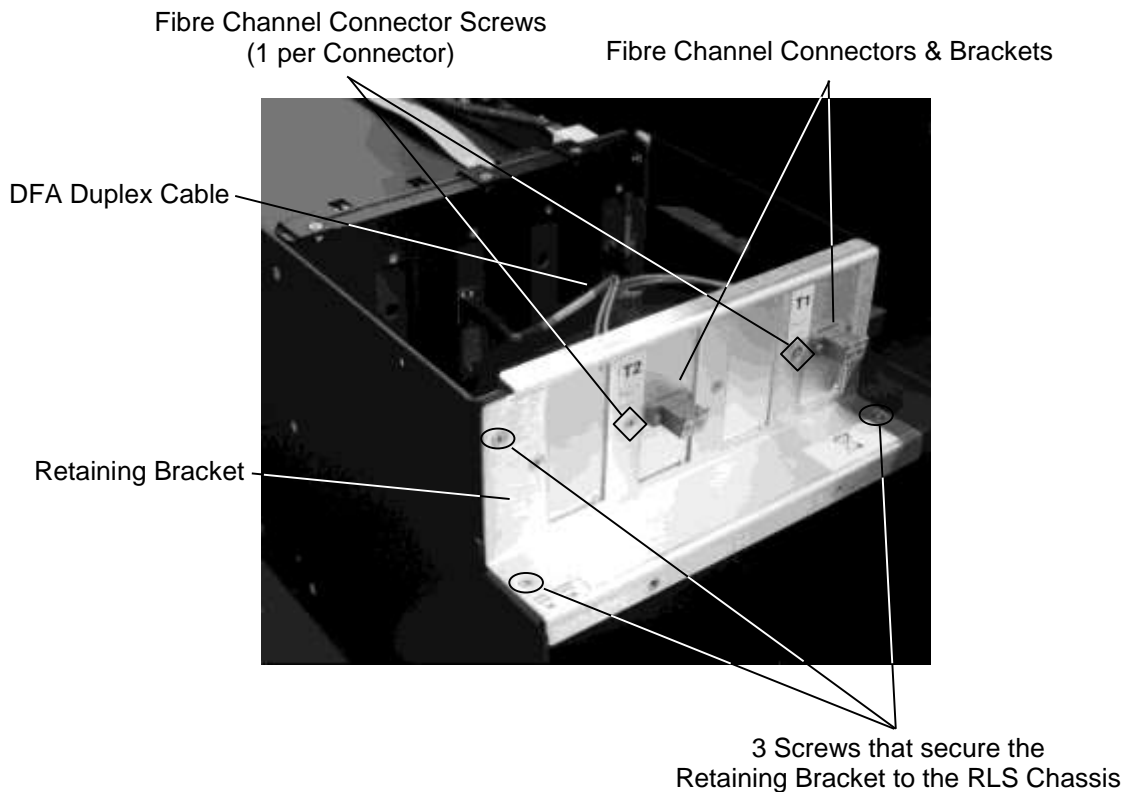

Figure 7-41 DFA Duplex Cables shown at the rear of an RLS-8236D
6. Using a No. 2 Phillips screwdriver, remove the screw located to the left of the fibre channel connectors for each adapter that is installed. See Figure 7-41. Carefully push the fibre channel connector and its bracket into the library.
7. Using a No. 2 Phillips screwdriver, remove the three screws that secure the retaining bracket to the library's chassis. See Figure 7-41.
4. Using a No. 2 Phillips screwdriver, replace the three flat-head screws that secure the retaining bracket to the library. See Figure 7-41.
6. Using a No. 2 Phillips screwdriver, replace each of the fibre channel connectors flat-head screws that secure the connectors to the retaining bracket. See Figure 7-41.